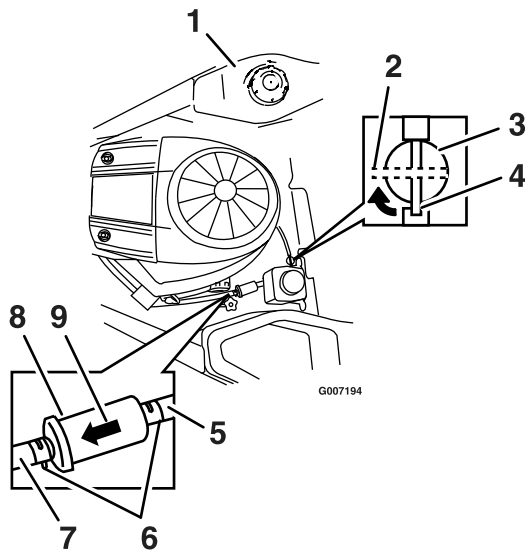

Figure 37
5. Squeeze the ends of the hose clamps together and slide them away from the filter (Figure 37).
7. Install a new filter with the flow direction arrow coming from the fuel tank and pointing to the engine. Move the hose clamps close to the filter (Figure 37) to secure it in place.